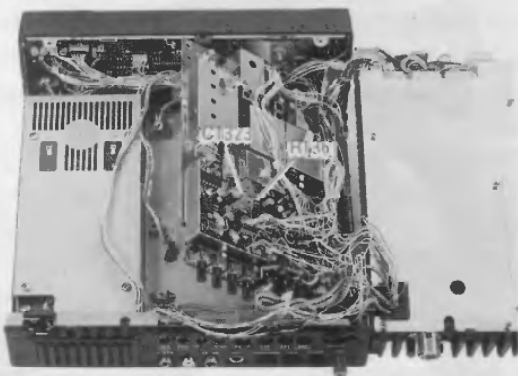

Figure 9: Local Unit Components to Remove
- Remove the seven screws shown in Figure 7 (note that one is next to the DVS-2 jack on the rear panel), and also remove the upper one of the two screws on either side of the front panel (Figure 8, next page), and loosen the lower one (on each side), allowing the front panel to be folded forward so that the Local Unit can be lifted as shown in Figure 9 (next page).
- Referring to Figure 9, locate capacitor C1323 and resistor R1361 on the board just behind the oscillator housing. Cut the leads of these parts and remove them.